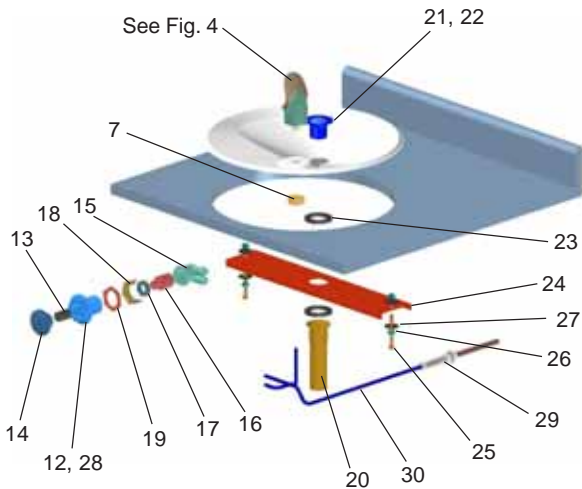

Figure 7
10. Check stream height from bubbler. Stream height is factory set at 45-50 PSI. If supply pressure varies greatly from this, adjust the screw on regulator item 16 by using a small screwdriver through the small hole in the push button item 14 (See Fig.7). Clockwise adjustment will raise stream height and counterclockwise movement will lower stream height. For best adjustment stream should hit basin approximately 6-1/2" from bubbler.